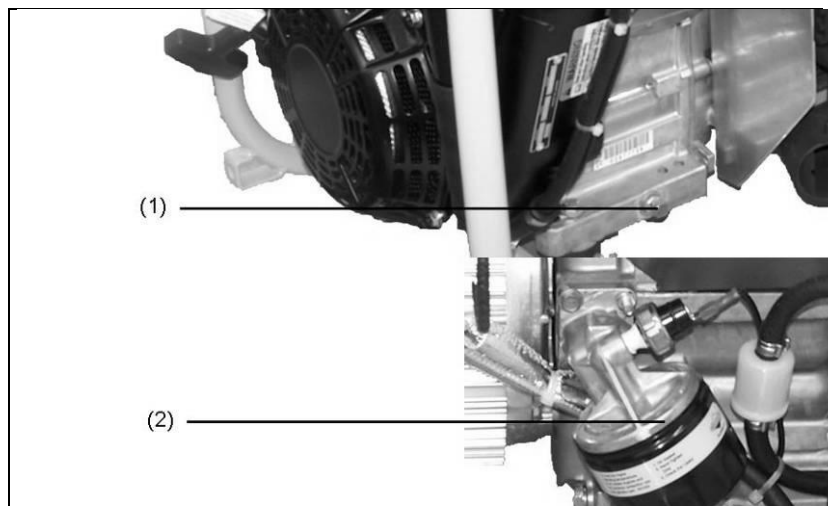

Figure 6-2: Changing the oil
3. Unscrew oil drainage screw (*Figure 6-2-(1)*) carefully and wait until oil has completely run off into the collection container.
4. Screw on oil drainage screw (*Figure 6-2-(1)*) again.
When changing the oil filter (*Figure 6-2-(2)*), proceed as described in the engine manual.